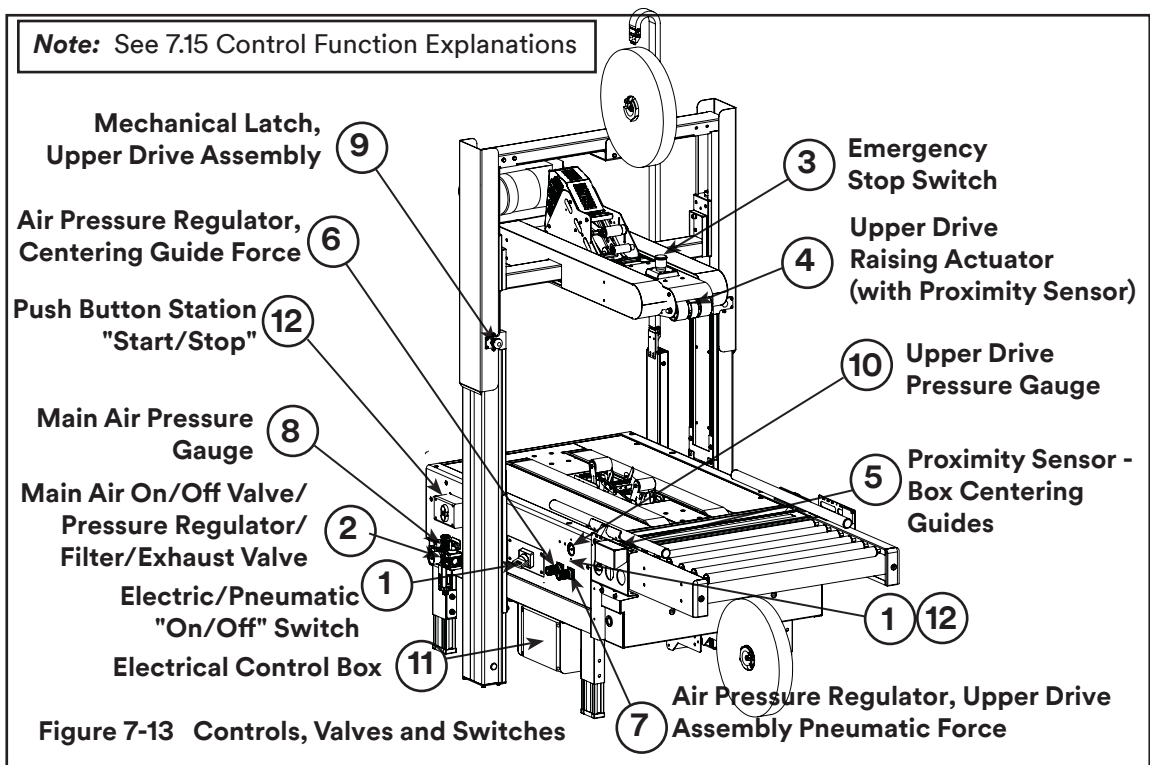

Figure 7-13 Controls, Valves and Switches
With Safety Guard removed - **Figure 7-13:**
- Using flat head screws provided, install Column Bumper (recommended position is shown in **Figure 7-13**).